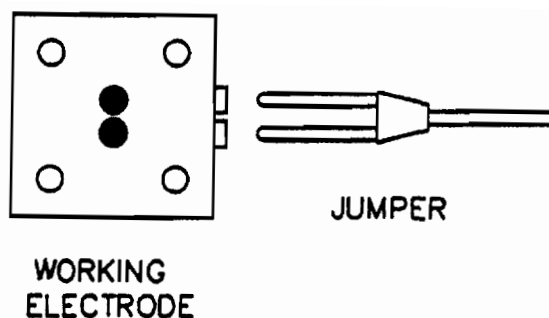

Figure 3-15. Dual Electrode Jumper (packaged with other accessories in the gray box).
15. To use the ELECTRODE JUMPER (Figure 3-15), insert the working electrode lead into the bottom of the jumper and then place the adjacent pins into the connectors. With the jumper, you double the size of the working electrode. This will increase the signal, but you should also expect an increase in noise (see Figure 4-12).